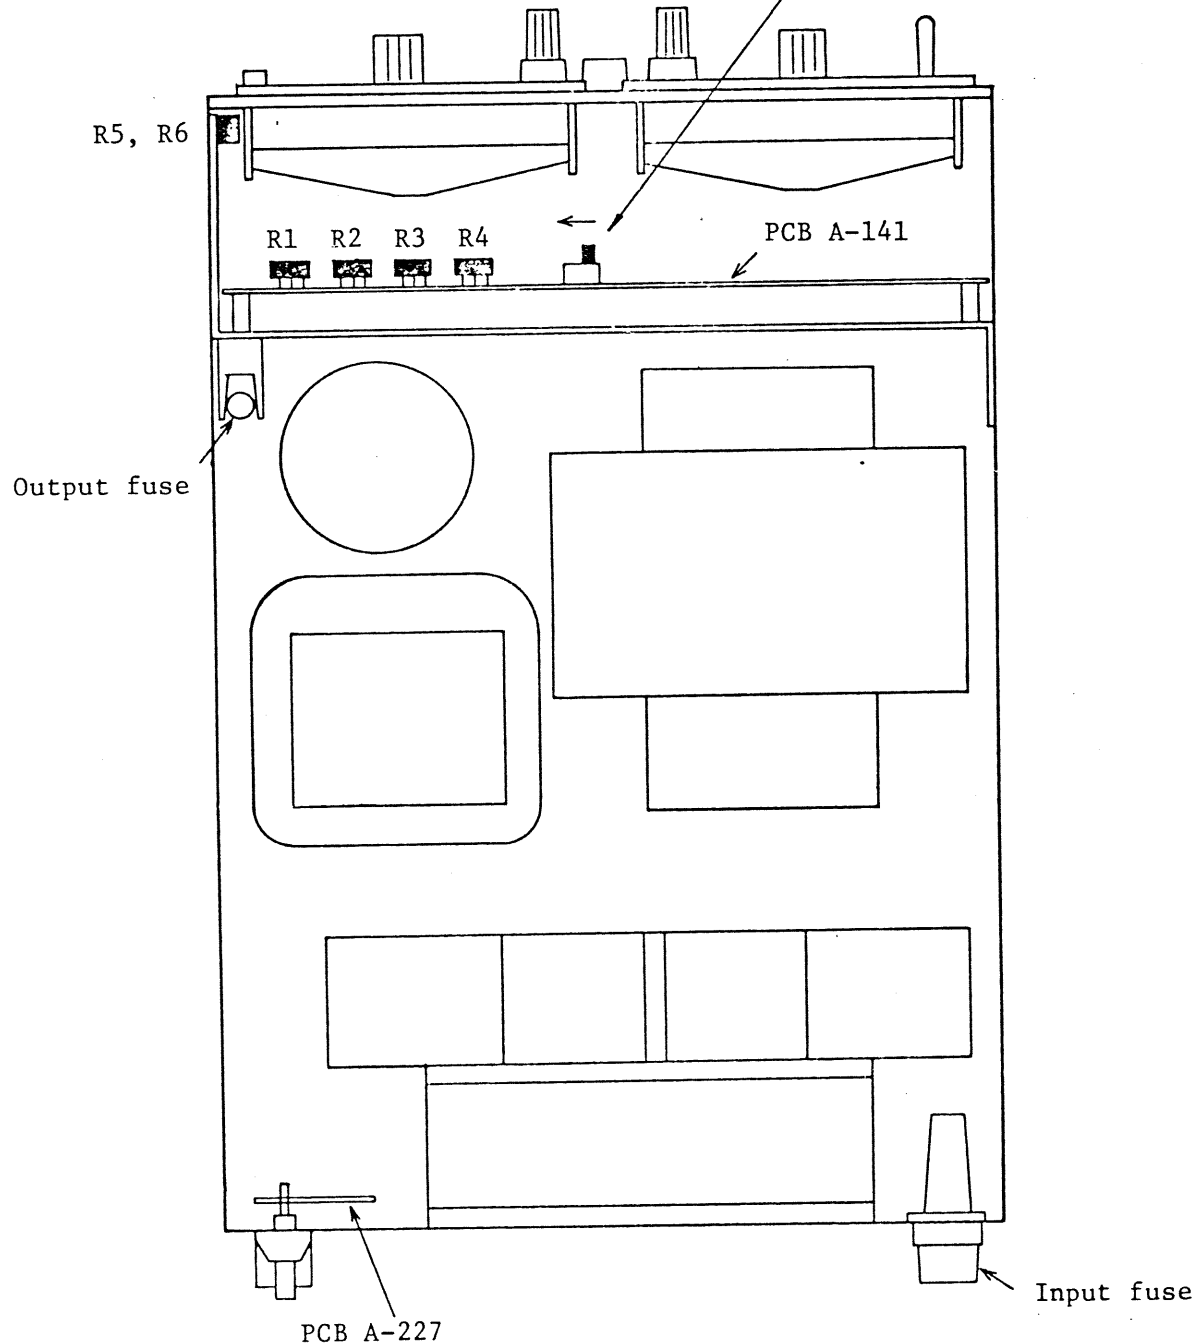

Figure 5-1
(See Figure 5-1.)
Connect an external ammeter of an accuracy of 0.5% or better in the output circuit, set the output current at the value indicated on Table 5-1, and calibrate the instrument ammeter with R5 (A) at the right-hand section on the front panel. (See Figure 5-1.)
Set the output voltage at the value indicating on Table 5-1. Press the current/voltage limit switch and so adjust R3 on PCB A-141 that the voltmeter reads the set voltage value. (See Figure 5-1.)
Connect to the output terminals an external voltmeter of an accuracy of 0.5% or better, set the constant-voltage setting knob in the maximum position (extremely clockwise position), and so adjust R4 on PCB A-141 that the instrument voltmeter reads the value indicated on Table 5-1. (See Figure 5-1.)
Connect in the output circuit an external ammeter of an accuracy of 0.5% or better, set the constant-current setting knob in the maximum position (extremely clockwise position), and so adjust R2 on PCB A-141 that the instrument ammeter reads the value indicated on Table 5-1. (See Figure 5-1.)